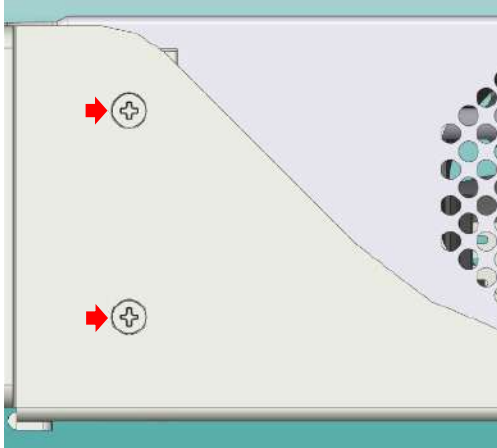
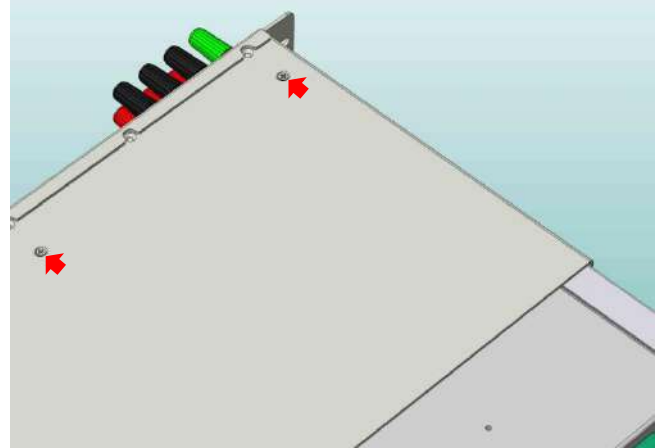

Figure 7: Side screws
Figure 8: Bottom screws
Step 3. Once the holes are aligned, fasten the two side screws using the provided hardware (Fig. 7). Then fasten the two bottom screws using the screws removed from the instrument in step 1 (Fig. 8). Do not tighten all of the screws until all of them are started and alignment has been checked.